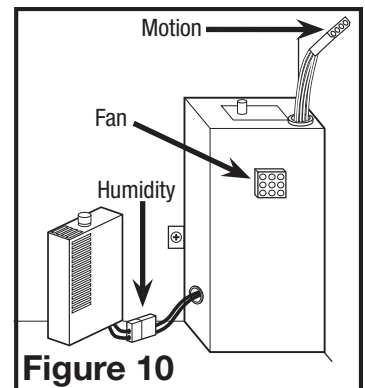

Figure 10
- 3a. **STANDARD MODELS:** Plug the fan's quick connect motor cord into the corresponding receptacle located on the wire compartment cover. This cord will only fit one way into the receptacle (**Figure 10**).
- 3b. **HUMIDITY SENSING MODELS:** Plug the fan's quick connect motor cord into the corresponding receptacle located on the wire compartment cover. Connect the two pin connector from the humidistat compartment to the two pin connector from the side of the wire compartment cover. These cords will only fit one way into the receptacles (**Figure 10**).
- 3c. **MOTION SENSING MODELS:** Plug the fan's quick connect motor cord into the receptacle located on the side of the wire compartment cover. Plug the 4 pin quick connect cord from the grill into the 4 pin receptacle located on the top of the wire compartment cover. These cords will only fit one way into the receptacles (**Figure 10**).